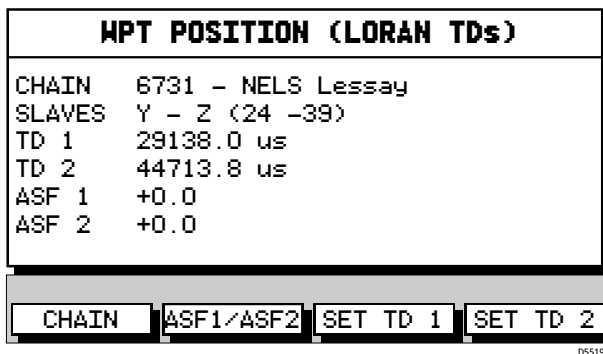

Figure 3-20: Waypoint Position Screen (Loran TDs)
- Press the **MAKE NEW WAYPOINT** followed by the **LORAN TDs** soft key; the **WPT POSITION (LORAN TDs)** screen is displayed, together with its associated soft keys, see *Figure 3-20*.